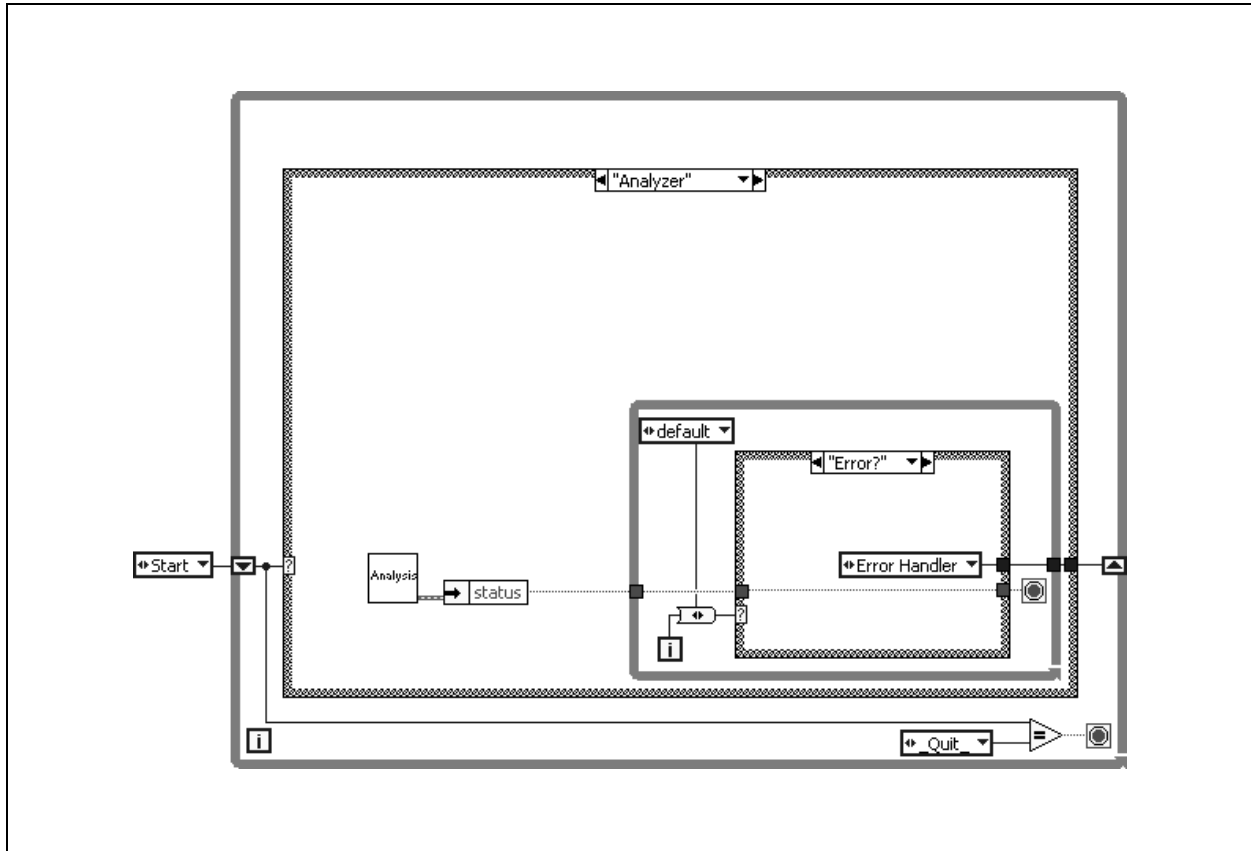

Figure 10-11. State Diagram Toolkit State Machine
- **State Diagram Toolkit**—Another pattern that implements the transition code is also used by the NI LabVIEW State Diagram Toolkit. This pattern uses a large Case structure for every state and a smaller While Loop that iterates through the state transitions until the proper state transition is met. Figure 10-11 shows the LabVIEW State Diagram Toolkit implementation for a temperature data acquisition system.